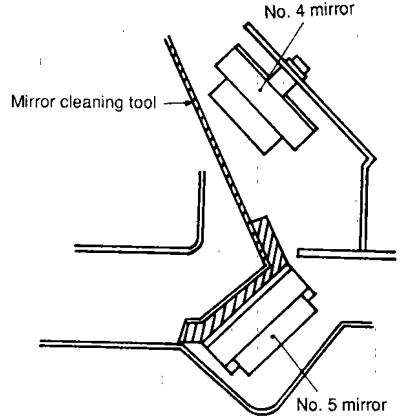

Figure 4-21
- 3) Push the mirror cleaning tool against the No. 5 mirror as shown in Figure 4-21, and clean the lens by sliding it back and forth.